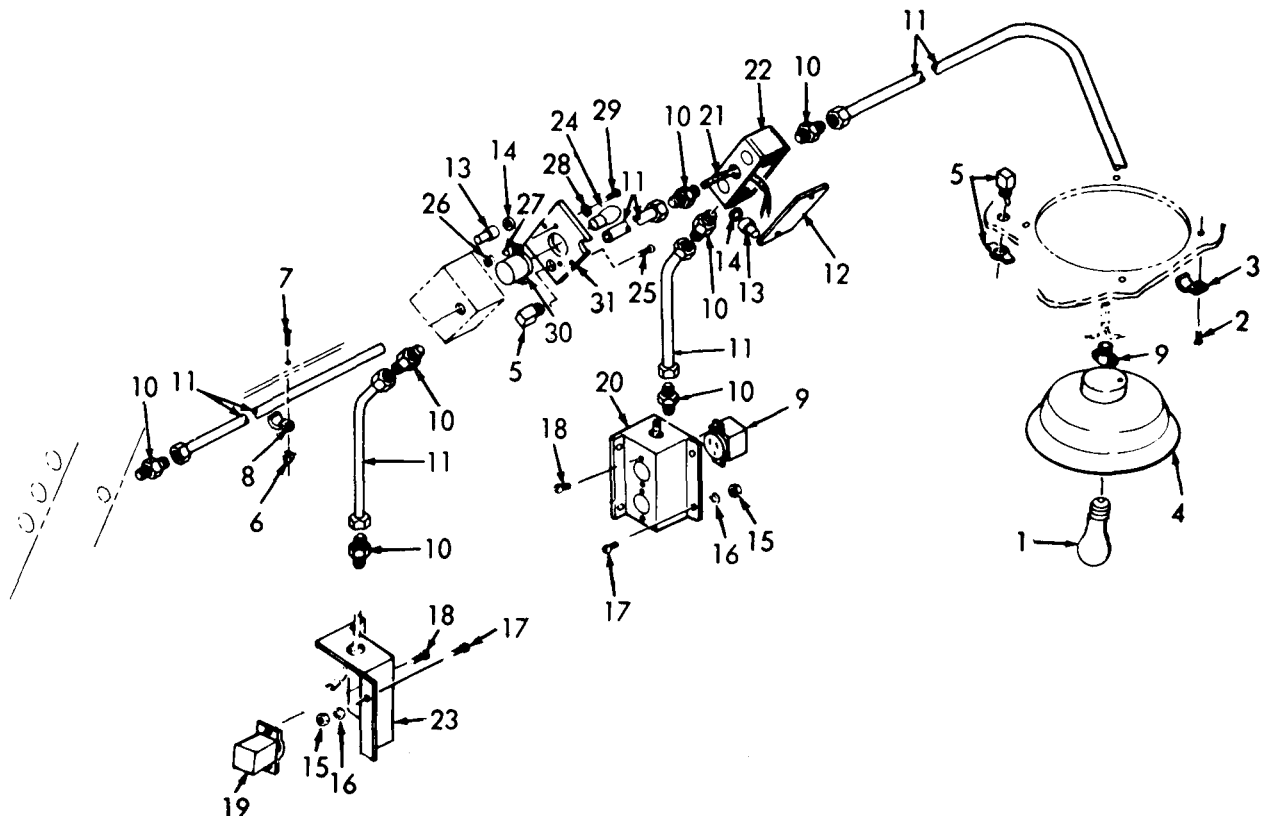

Figure 6-15. Rear Wiring to Floodlight, Removal and Installation.
- (1) Clean with cleaning solvent and dry thoroughly.
- (2) Inspect for defective and missing parts or hardware. Replace as necessary.
- c. Installation. Install the rear wiring to the floodlight as illustrated by figure 6-15.
## LEGEND FOR FIGURE 6-15: